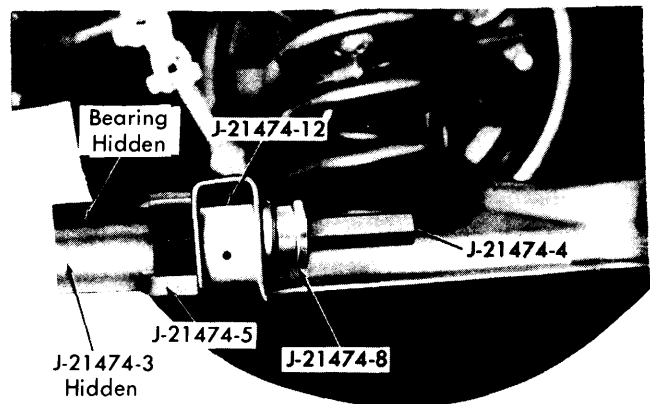

Fig. 5 Removing Lower Control Arm Bushing
**Bushing Removal** – Raise car and support frame with safety stands. Disconnect lower shock absorber attachments and push shock up through coil spring. Using suitable tool (J-23028-01) and jack, position under lower arm bushings so bushings seat in grooves of tool. As a safety precaution, install chain around lower arm and through coil spring. Removing rear bolt first, unbolt all lower control arm pivot attachments. Release tension on lower control arm slowly and install spacer (J-21474-12). **CAUTION** – Do not try to remove bushing without spacer being in position or distortion of arm will result. Install correct tools as shown in Fig. 5. Turn hex bolt and nut to press old bushing out. **NOTE** – When removing front bushing, remove bushing flare by tapping on edge with hammer.